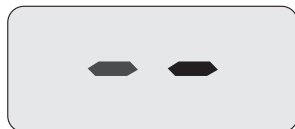
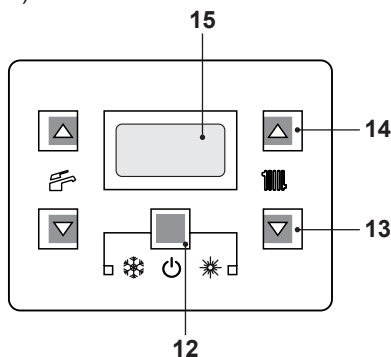

Fig. 7.3
Fig. 7.4
- Electrically power the boiler by switching on the double pole isolation switch. The LCD will display, the  symbol (Fig. 7.3).
- Press the 12 key for 2 seconds until both  symbol appear on the display (Fig. 7.4).
- Switch off the boiler by pressing the 12 (Fig. 7.4) key for 2 seconds until the  symbol appears on the LCD display (Fig. 7.3).